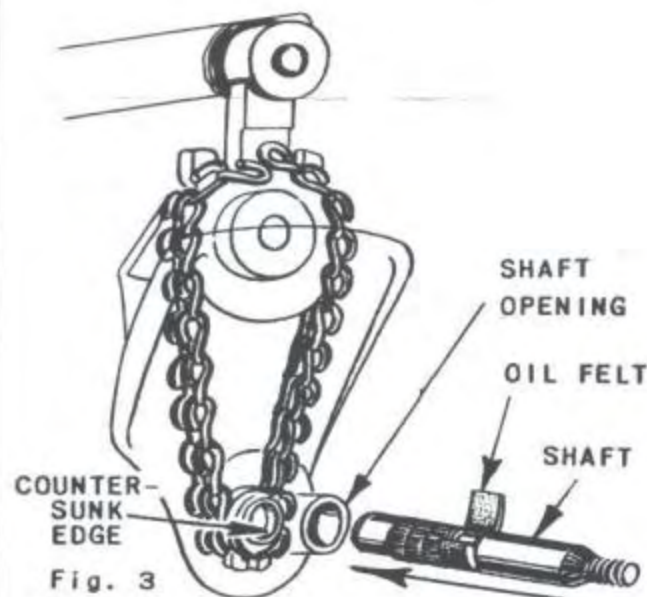

Fig. 3
3. Insert upper segment and chain assembly into die cast housing with counter-sunk edge of upper segment toward shaft opening. (Fig. 3)
4. Install new shaft. (Fig. 3)